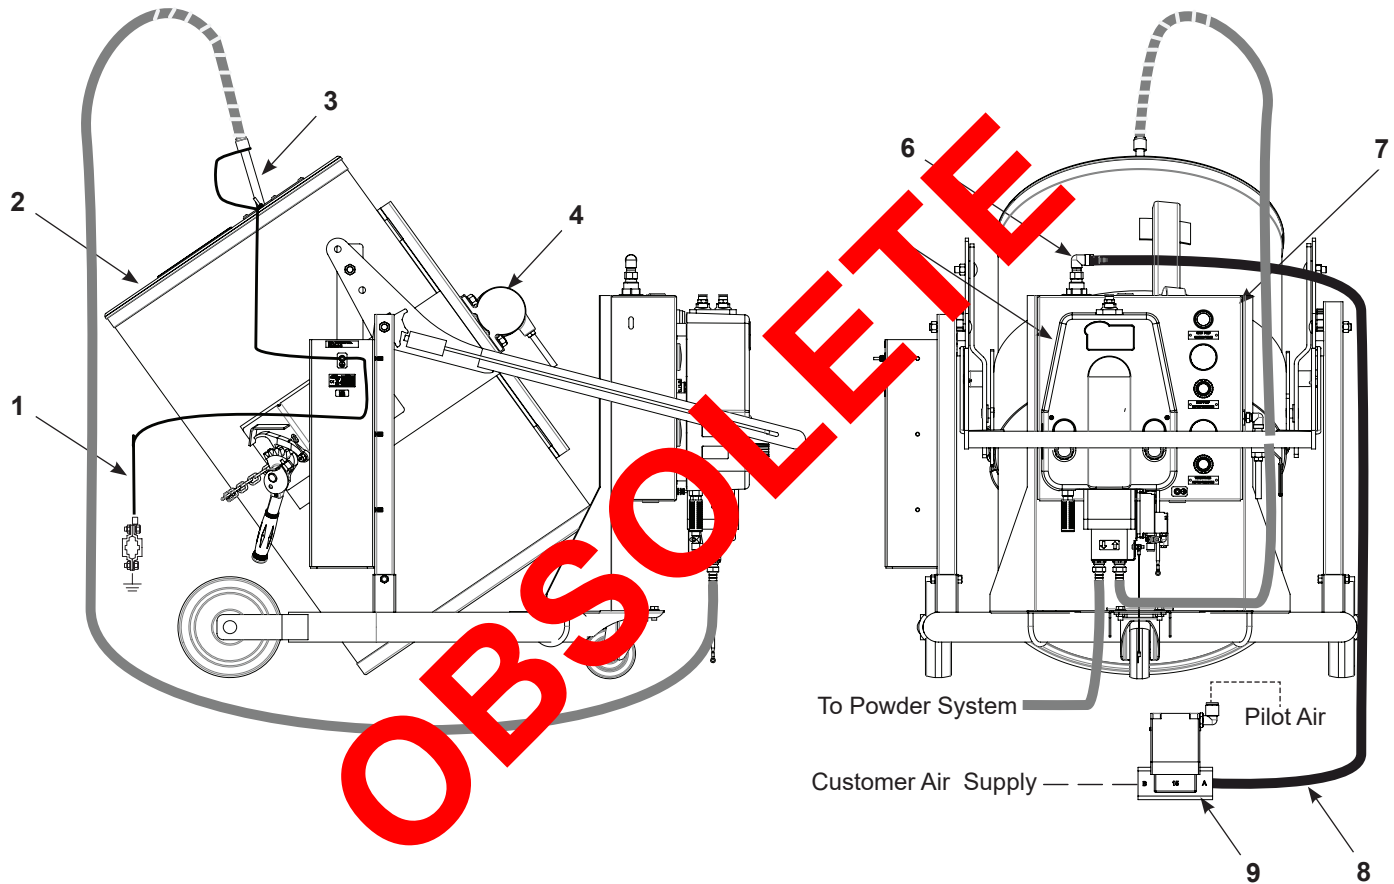

Figure 1 HDLV 55-Gallon Powder Drum Dolly Components and Connections
See Figure 1. The HDLV® 55-gallon powder drum unloader uses a Prodigy® HDLV High Capacity pump to supply virgin powder to a powder coating system. The pump can be operated manually or automatically. An air-operated vibrator motor fluidizes the powder in the drum so it can be pumped easily.
See Figure 1. Make the following connections:
Drum Lid: Install a drum on the dolly and secure it with the chain and ratchet assembly. Remove the shipping lid and install the drum cover (2) in its place. Connect the drum cover ground clamp to the ground stud on the side of the dolly. Rotate the drum to the angle shown in Figure 1.